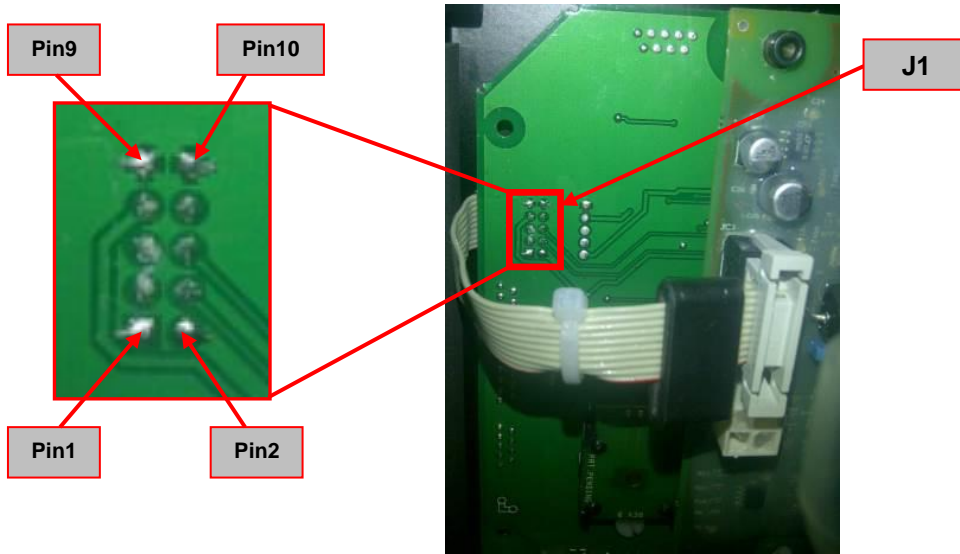

Figure 22 – W05X1649 User Interface boards test points
6. Perform the voltage tests detailed in **Test Table 13**. See **Figure 21** and **Figure 22** for Test Point locations.